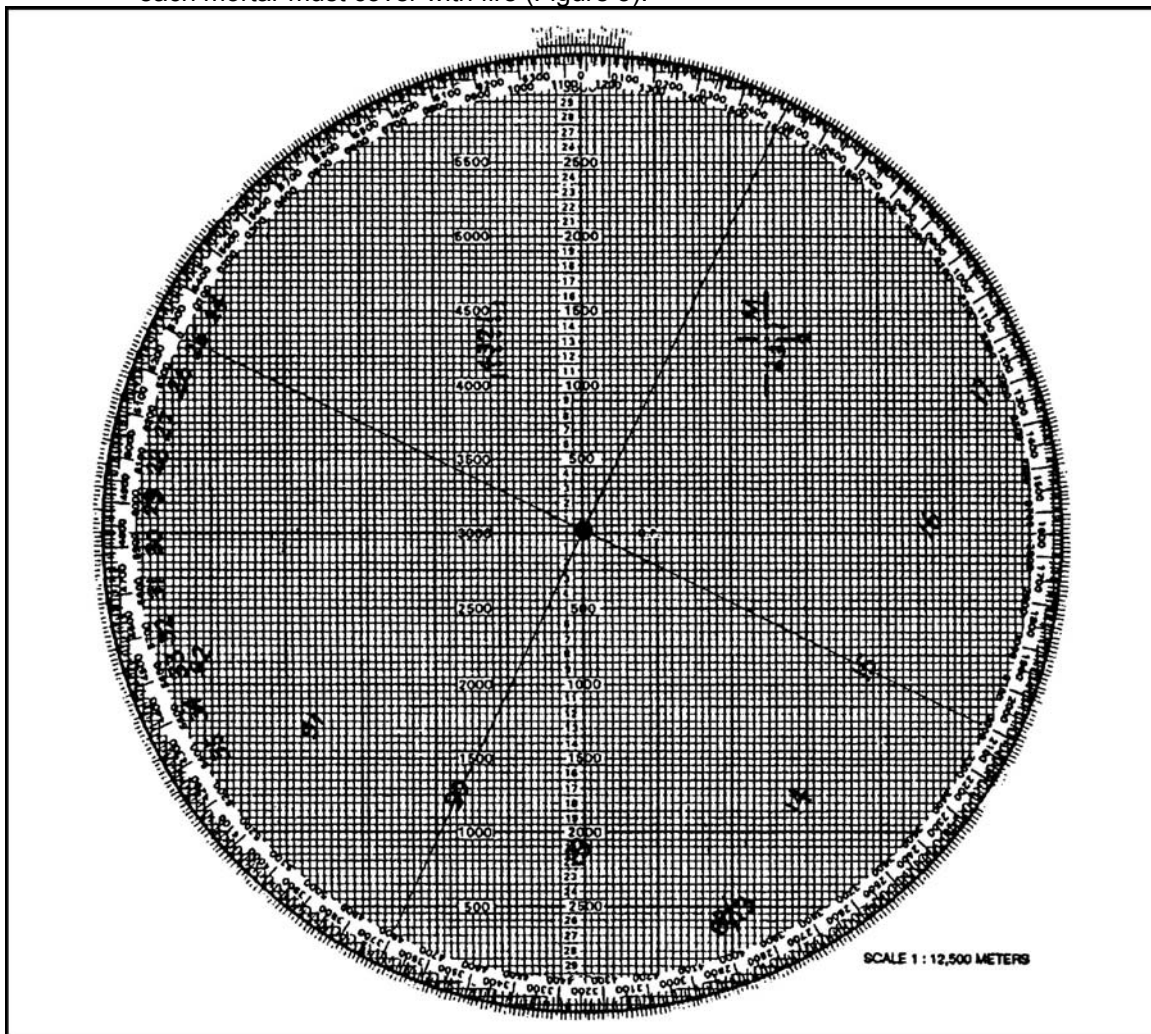

Figure 5. Mortar plots.
- (1) To plot the target on the plotting board, the computer rotates the azimuth disk until the target attitude (taken from the call for fire) is indexed. The computer erases all the plots except the last. Being sure that the attitude is indexed, the computer makes a plot 100 meters above that adjustment plot, then another plot 100 meters above the plot followed by one last plot 100 meters above that plot. These plots represent the start points for each mortar. The area between the plots, and for 100 meters beyond the last plot, is the area each mortar must cover with fire (Figure 5).